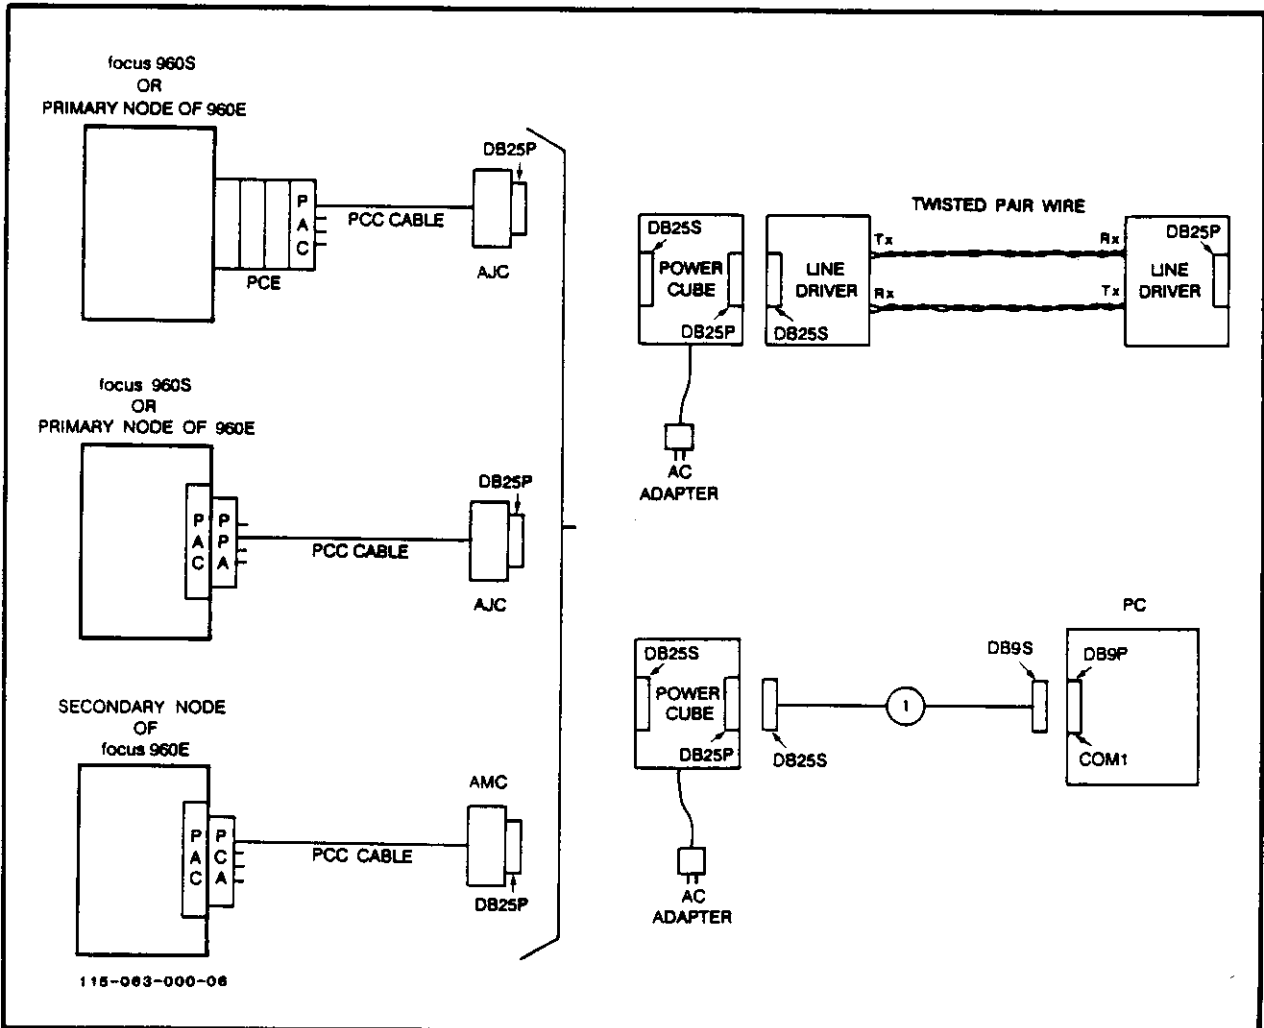

Figure 3-16. Remote PBX to PC SMDR Link without Call Record Buffer
9.04 If you have a remote cable kit and you do not have a call record buffer, refer to Figure 3-16 and follow these steps.
2. Plug the other end into either the AJC or AMC included with the cable kit. Refer to Figure 3-16 to determine the proper adapter to be used.